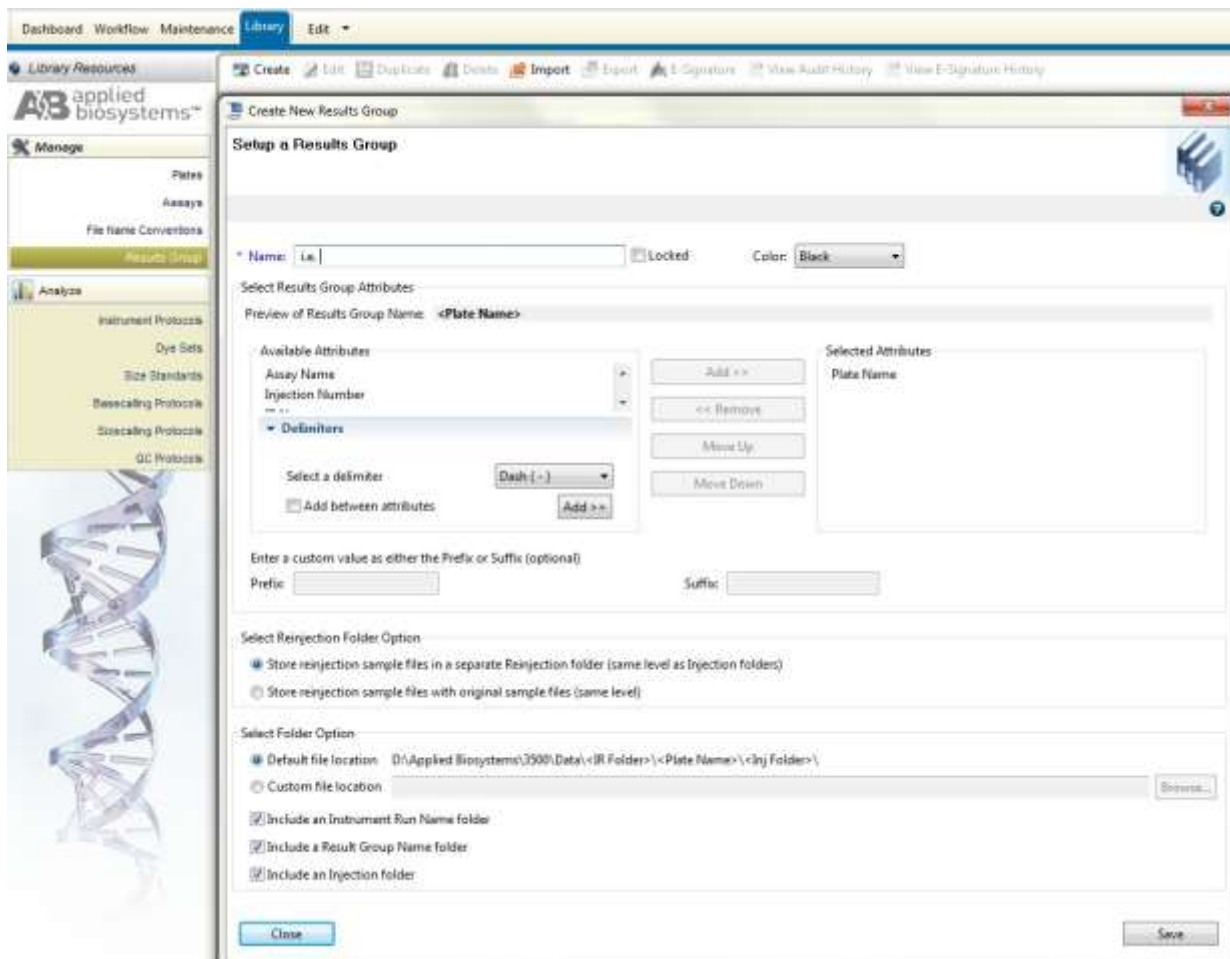

Figure 10. Screenshot for the “Create New Result Group” window on Applied Biosystems 3500 Data Collection software.
- c) Select “*Create*” (Figure 10)